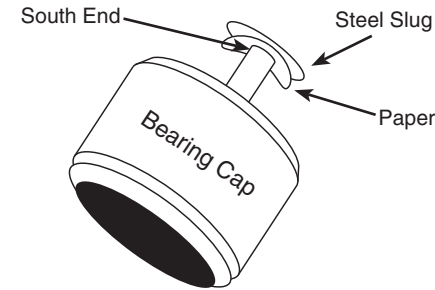

Figure 3
11. Tear off a thin piece of paper, and place it onto the 5/8" diameter steel slug. Place the paper and slug onto the south end of the magnets as shown. (See Figure 3.)